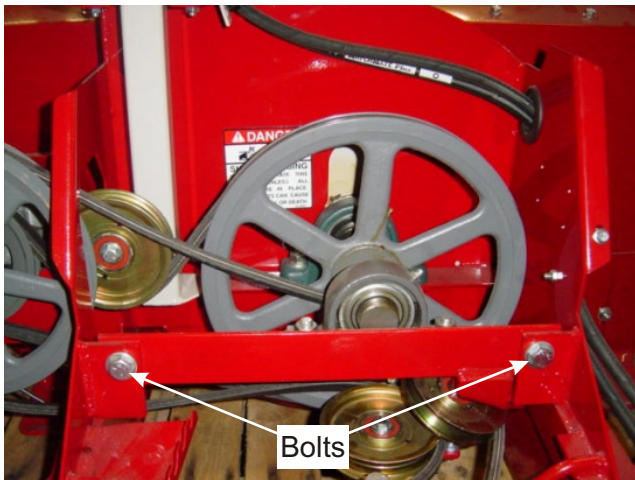

Figure 4
2. Remove the two bolts from the bracket that holds the rear blower shaft bearing. See Figure 4.